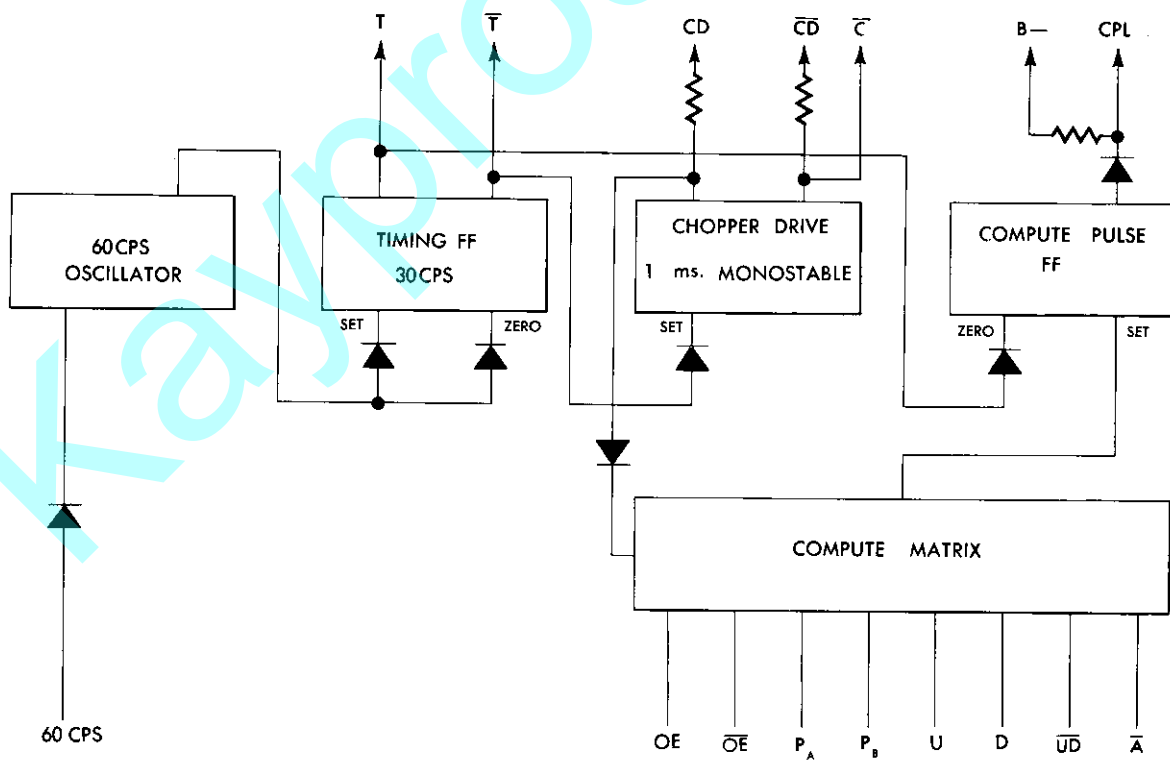
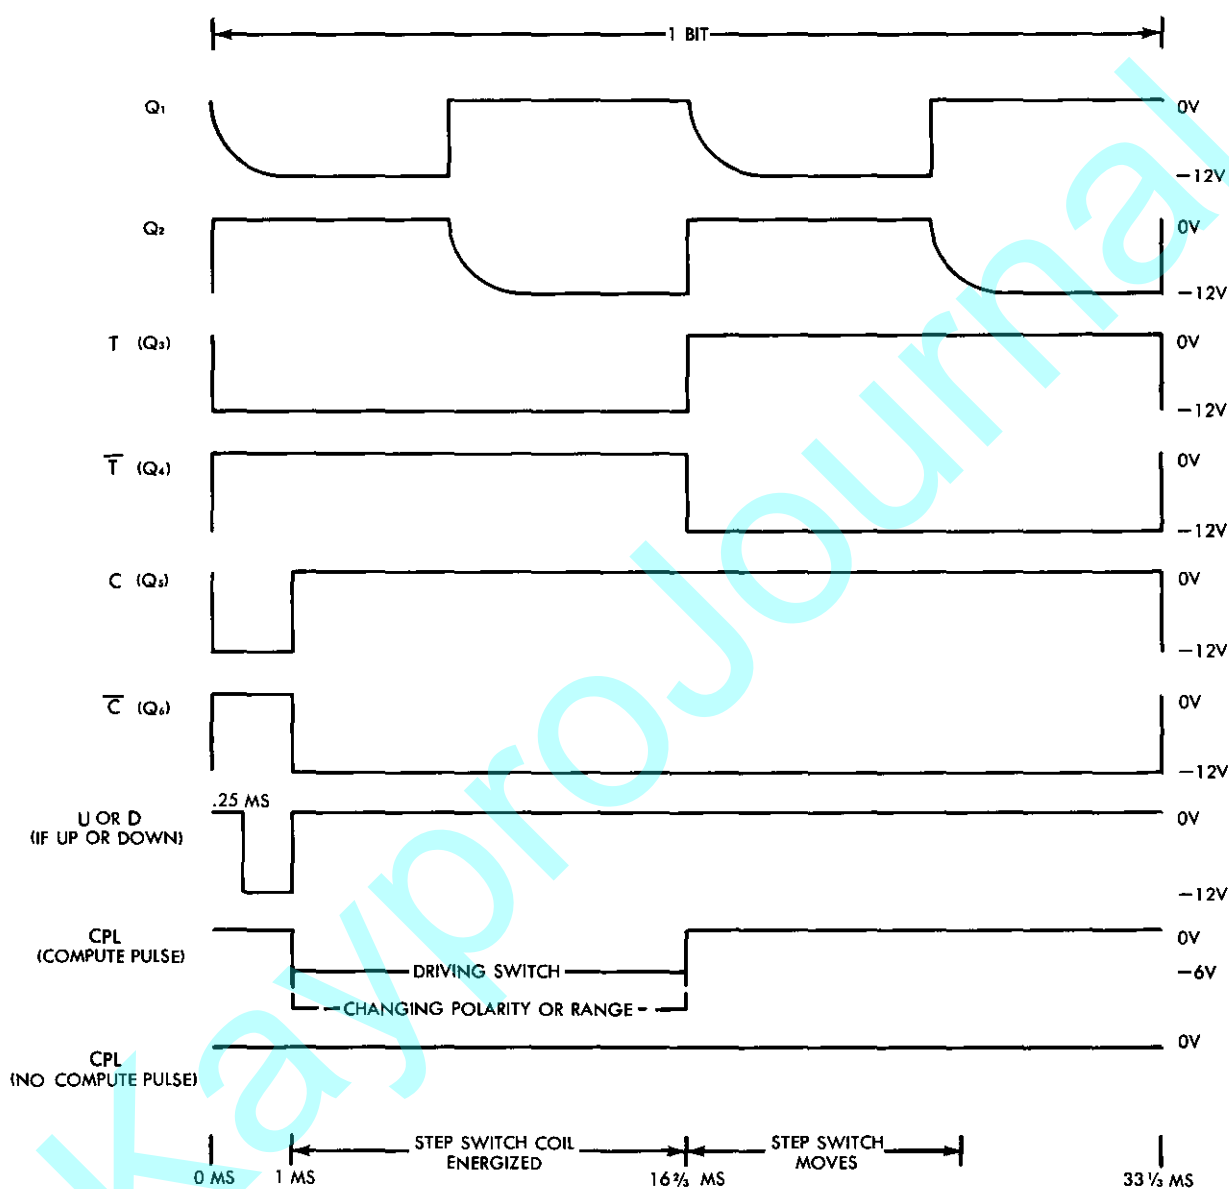
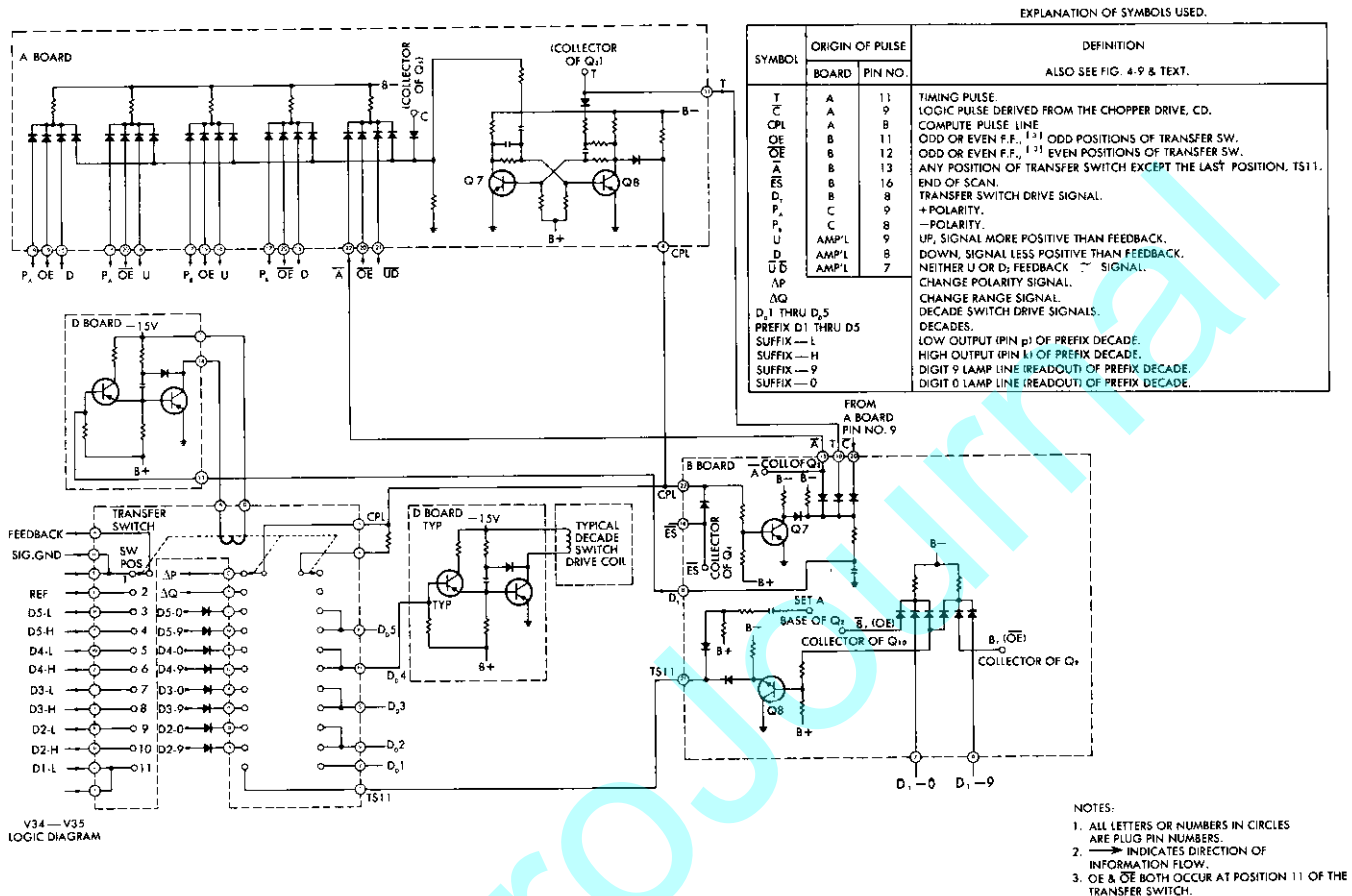

Figure 4-8. "A" Board Block Diagram.
Figure 4-9. Timing Chart.
Figure 5-1. Simplified Schematic Logic Circuits.
4-5 A Board Located on the A Board are the timing generator and the compute pulse generator. Figure 4-8 is a block diagram of the plug-in assembly and Figure 4-9 illustrates the timing of the pulses generated. The 60 cps oscillator is a free-running multivibrator synchronized to the power line frequency. (This multivibrator will also synchronize with 50 cps power.) The timing FF divides the frequency by two, producing 30 cps square waves, the bit rate of the DVM. The timing FF sets the chopper drive FF at the beginning of each bit and zeroes the compute pulse (CP) FF at the middle of each bit. The chopper drive FF is a one-millisecond monostable FF. CD and \bar{CD} drive the center-tapped chopper coil, thus
A survey of the plug-in symptom chart in Section 5-1 will reveal that many plug-in units can cause scan failure. Failure to scan will always show up in the logic checkout. Figure 5-1 is a simplified schematic of the Compute Pulse Line (CPL) and its associated circuitry. This diagram can be of considerable assistance in tracing the faulty plug-in assembly.
Connect an oscilloscope from CPL (Pin 22 on the B Board) to power ground (Pin 3 on the B Board). If a pulse similar to that pictured in Figure 4-9 exists, then a Compute Pulse (CP) exists. Using Figure 5-1 as a guide, trace CPL through the transfer switch to ΔP , ΔQ , or one of the decade drives. If CP exists on ΔP or ΔQ , the C Board is at fault. If CP exists on one of the decade drives, the trouble is either the appropriate D Board or Decade switch. A CP on one of the decade drives will fall to about -0.3 volts, instead of -6 volts as on CPL. If a CP does not exist (\overline{CP}), the transfer switch should be stepping. Connect the oscilloscope to D_T (pin on the B Board). This point should show a pulse from approximately $+6$ volts to -0.3 volts. If the pulse exists, the fault is either the appropriate D Board or the transfer switch. If the pulse does not exist, the fault is most likely the B Board.